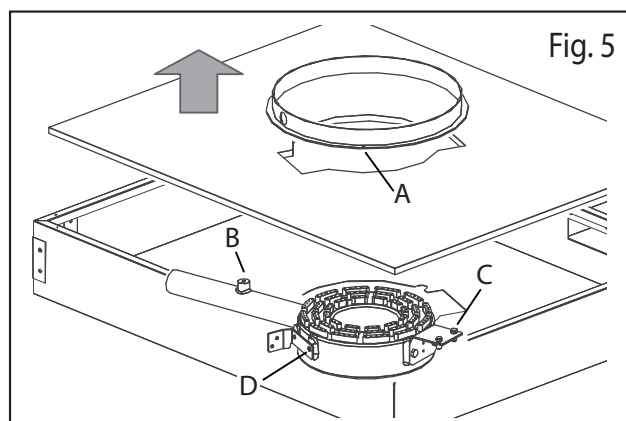

Fig. 5
Solid top 980: Loosen the heat conveyor retaining screws (Fig. 5/A)
- Remove the insulation and unscrew the burner from the combustion chamber (Fig. 5/B+C)
- Unscrew the supports (Fig. 5/C+D) and screw them to the new burner again